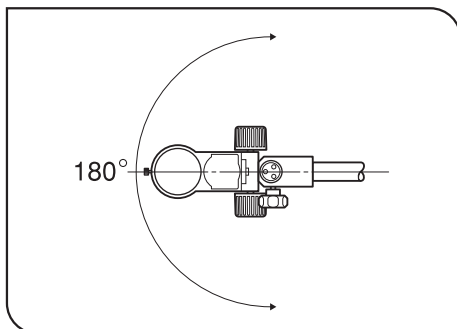

Fig. 8
4. To rotate the bonder arm horizontally, loosen the bonder arm rotation clamping knob. (Fig. 8)